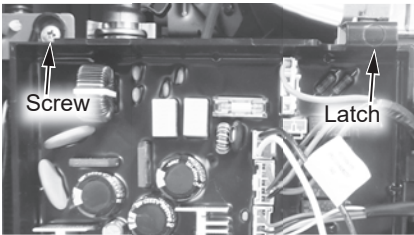

Figure 209 - Control board location
- 12 Locate the two (2) screws at the bottom of the cabinet cover. Use a Phillips screwdriver to remove the screws. Place screws aside in a safe place for reinstallation.
- 14** Locate the screw securing the control board panel as shown in Figure 209. Use a Phillips screwdriver to remove the screw and place it aside in a safe place for reinstallation.